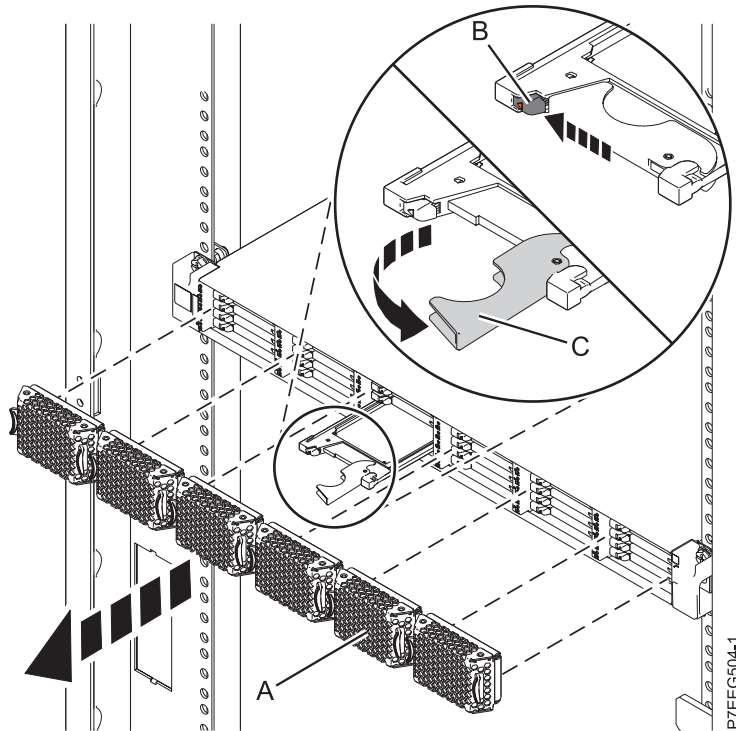

Figure 34. Removing the solid-state drive from the EDR1 PCIe storage enclosure
1. Pull off the bezel (A) that covers the slot that contains the solid-state drive. See Figure 34 on page 53.
2. Slide the release latch (B) over gently to unlock the drive handle.
3. Grasp the handle (C) and pull the drive partially out of the slot.